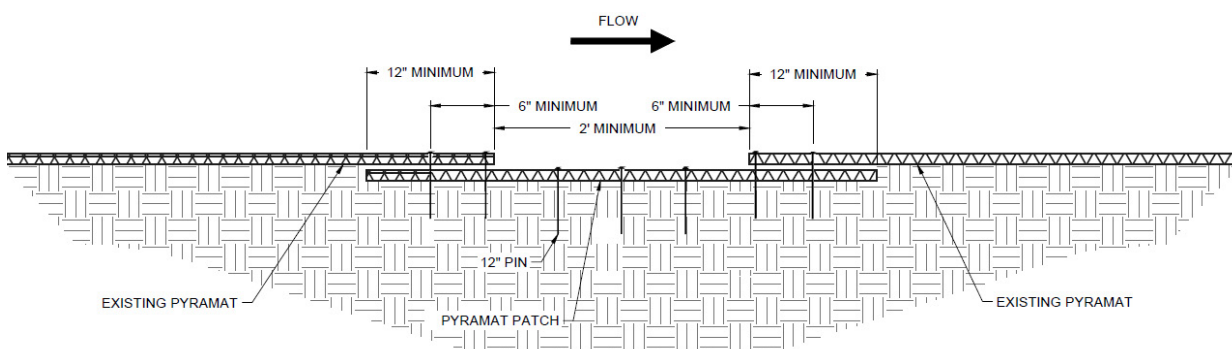
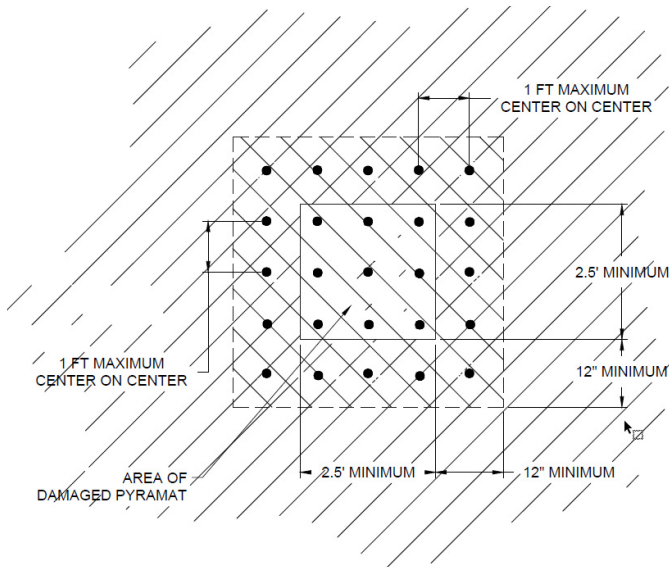

Figure 14: PROPEX Pyramat patch cross section
Figure 15: PROPEX Pyramat patch plan view
- A. Acceptable (A) - The rated area is in satisfactory, acceptable condition, and will function as designed and intended during the rain event. **PROPEX** Pyramat has no exposed edges, is installed tightly by maintaining direct contact to the slope surface with no drilling beneath, and has over 90% vegetation cover. There is no noticeable damage present.
- B. Minimally Acceptable (M) - The rated area has a minor deficiency that needs to be corrected. The minor deficiency will not seriously impair the functioning of the area during the next rain event; however, the overall reliability of the project will be lowered because of the minor deficiency. **PROPEX** Pyramat has 75% vegetation cover with unvegetated patches as large as one square yard. Edges of the material are exposed with noticeable damage. Minimal erosion has occurred underneath **PROPEX** Pyramat.
- C. Unacceptable (U) - The rated area is unsatisfactory. The deficiency is so serious that the area will not adequately function in the next rain event. **PROPEX** Pyramat has been physically torn, ripped, or lifted from the slope surface. Less than 75% vegetation cover is present with unvegetated patches being greater than 1 square yard, and there is evidence that erosion is occurring beneath **PROPEX** Pyramat.
3. To repair **PROPEX** Pyramat, cut out and remove damaged areas in a square configuration a minimum size of 2 ft by 2 ft (0.6 m x 0.6 m). Remove all vegetation and debris atop of the material. Loosen the top 1-2 in (25-51 mm) of soil in the patch area then seed. The subgrade of area to be patched shall be prepared to be smooth and uniform and transition smoothly into the in-situ area. Cut a square **PROPEX** Pyramat patch a minimum of 12 in (305 mm) greater than the damaged area for all four sides of the patch. Overlap the patch area in all directions a minimum of 12 in (305 mm). The patch overlaps shall be tucked under the existing damaged **PROPEX** Pyramat material (Figure 14 and Figure 15).